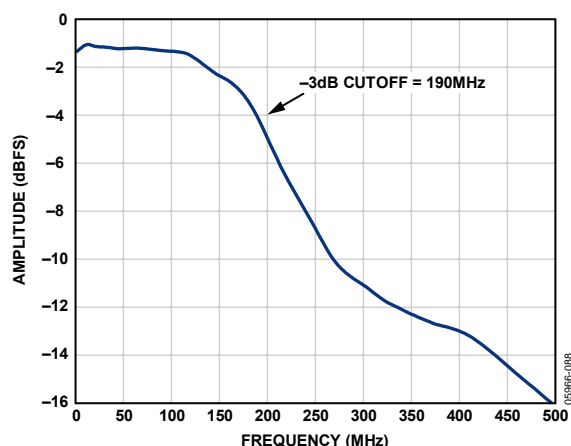

Figure 62. Evaluation Board Full Power Bandwidth
- **AIN:** The evaluation board is set up for a transformer-coupled analog input with optimum 50 Ω impedance matching out to 190 MHz (see Figure 62). For more bandwidth response, the differential capacitor across the analog inputs can be changed or removed. The common mode of the analog inputs is developed from the center tap of the transformer or AVDD_DUT/2.